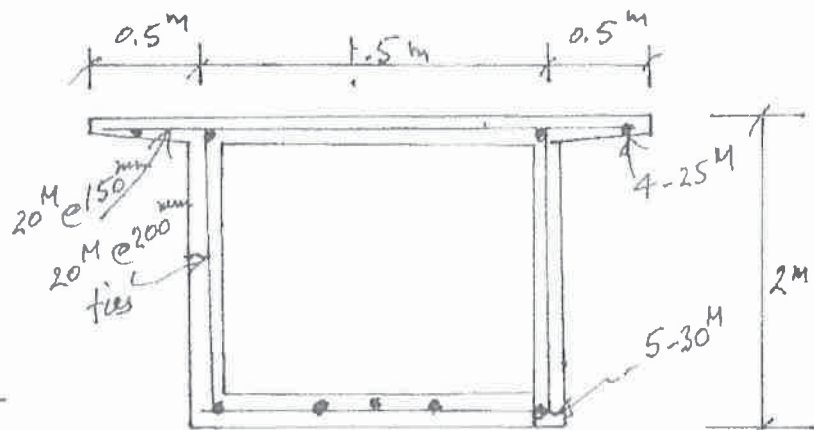

FIG. B3
- B3. Figure B3 shows the cross-section of a reinforced concrete culvert. For the given dimensions and steel reinforcing, calculate its moment (M_r) and shear (V_r) resistances. (Use $f'_c = 35$ MPa and $f_y = 400$ MPa.)